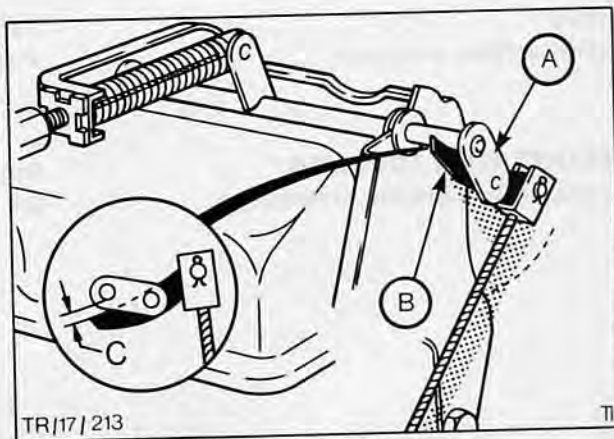

Fig. 16. Adjustment setting
12. Adjust downshift cable as follows: Press downshift cable connecting lever, 'B' Fig. 16, away from operating shaft lever, 'A' Fig. 16, by using a suitable screwdriver. Lengthen or shorten cable by means of the adjustment nut on the upper thread of the cable until a clearance of 0,2 to 1,0 mm (0,008 to 0,04 in) is obtained between operating shaft lever, 'A' Fig. 16, and downshift cable connecting lever, 'B' Fig. 16. Secure the nuts.